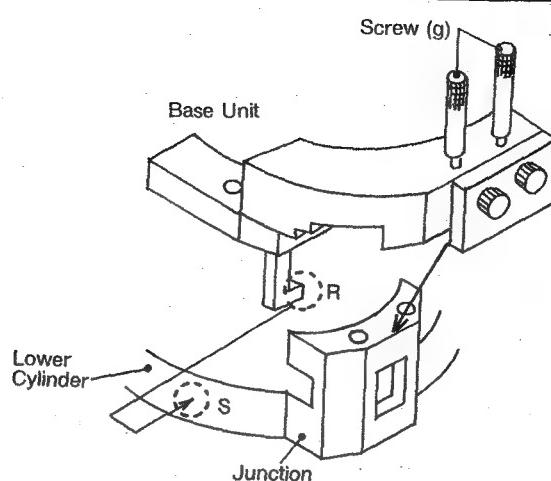

Fig. 7-7-4
- 1) Install the Base Unit on junction part of Lower Cylinder Unit and tighten stational screws (g) as shown in figure 7-7-4.
- 8) Remove the Base Unit from the Lower drum Unit. (Refer to figure 7-7-4)